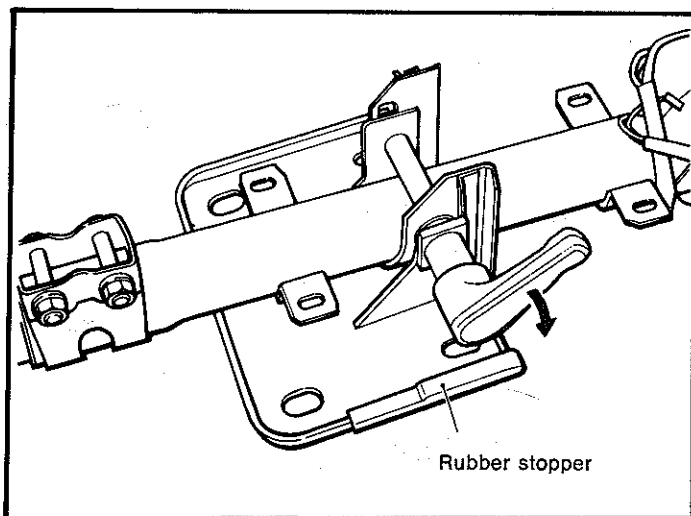

Fig. 5—Removing the tilt lever
(5) Remove the lower dust cover retaining bolts.
(6) Remove the tilt bracket bolts and remove the steering column and tilt bracket assembly from the vehicle.
(7) On two door and late four door models, remove the rubber stopper, the tilt lever and the tilt lock screw. Turn the lever in the direction of the arrow in Fig. 5. On early four door models, remove the knob by turning it counter clockwise.